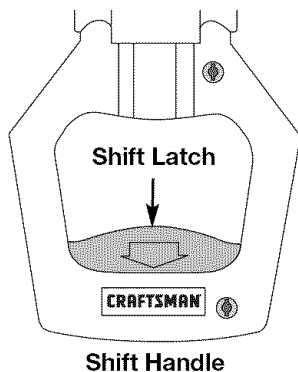

Fig. 6
1. If the shift handle is in the UP position, grasp the red shift latch (Fig. 6) on the shift handle and squeeze until the internal locking mechanism releases.
1. If the shift handle is in the DOWN position, grasp the red shift latch (Fig. 6) on the shift handle and squeeze until the internal locking mechanism releases.